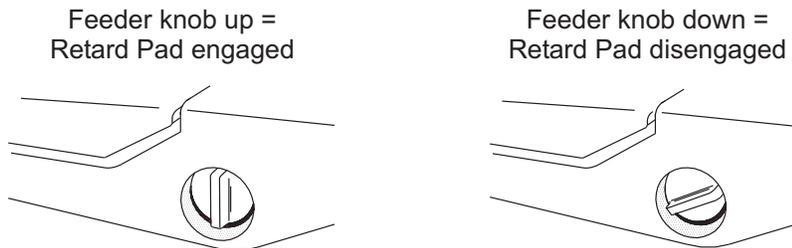

FIGURE 29: Feeder knob position
- 6 Turn the feeder knob to the upright position (see Figure 29).